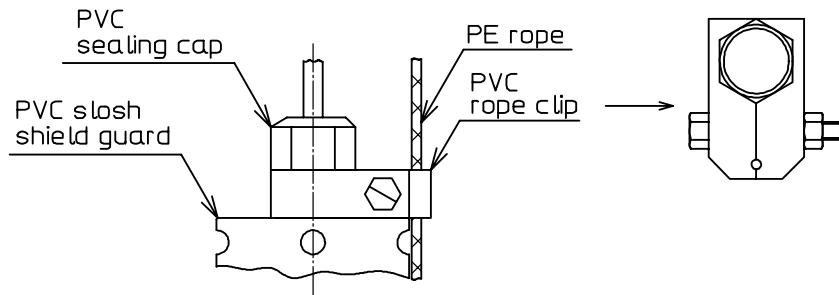

Fig. 7
- (4) Set the Guard Type Level Sensor on the rope with the rope clip (Refer to Fig. 7).